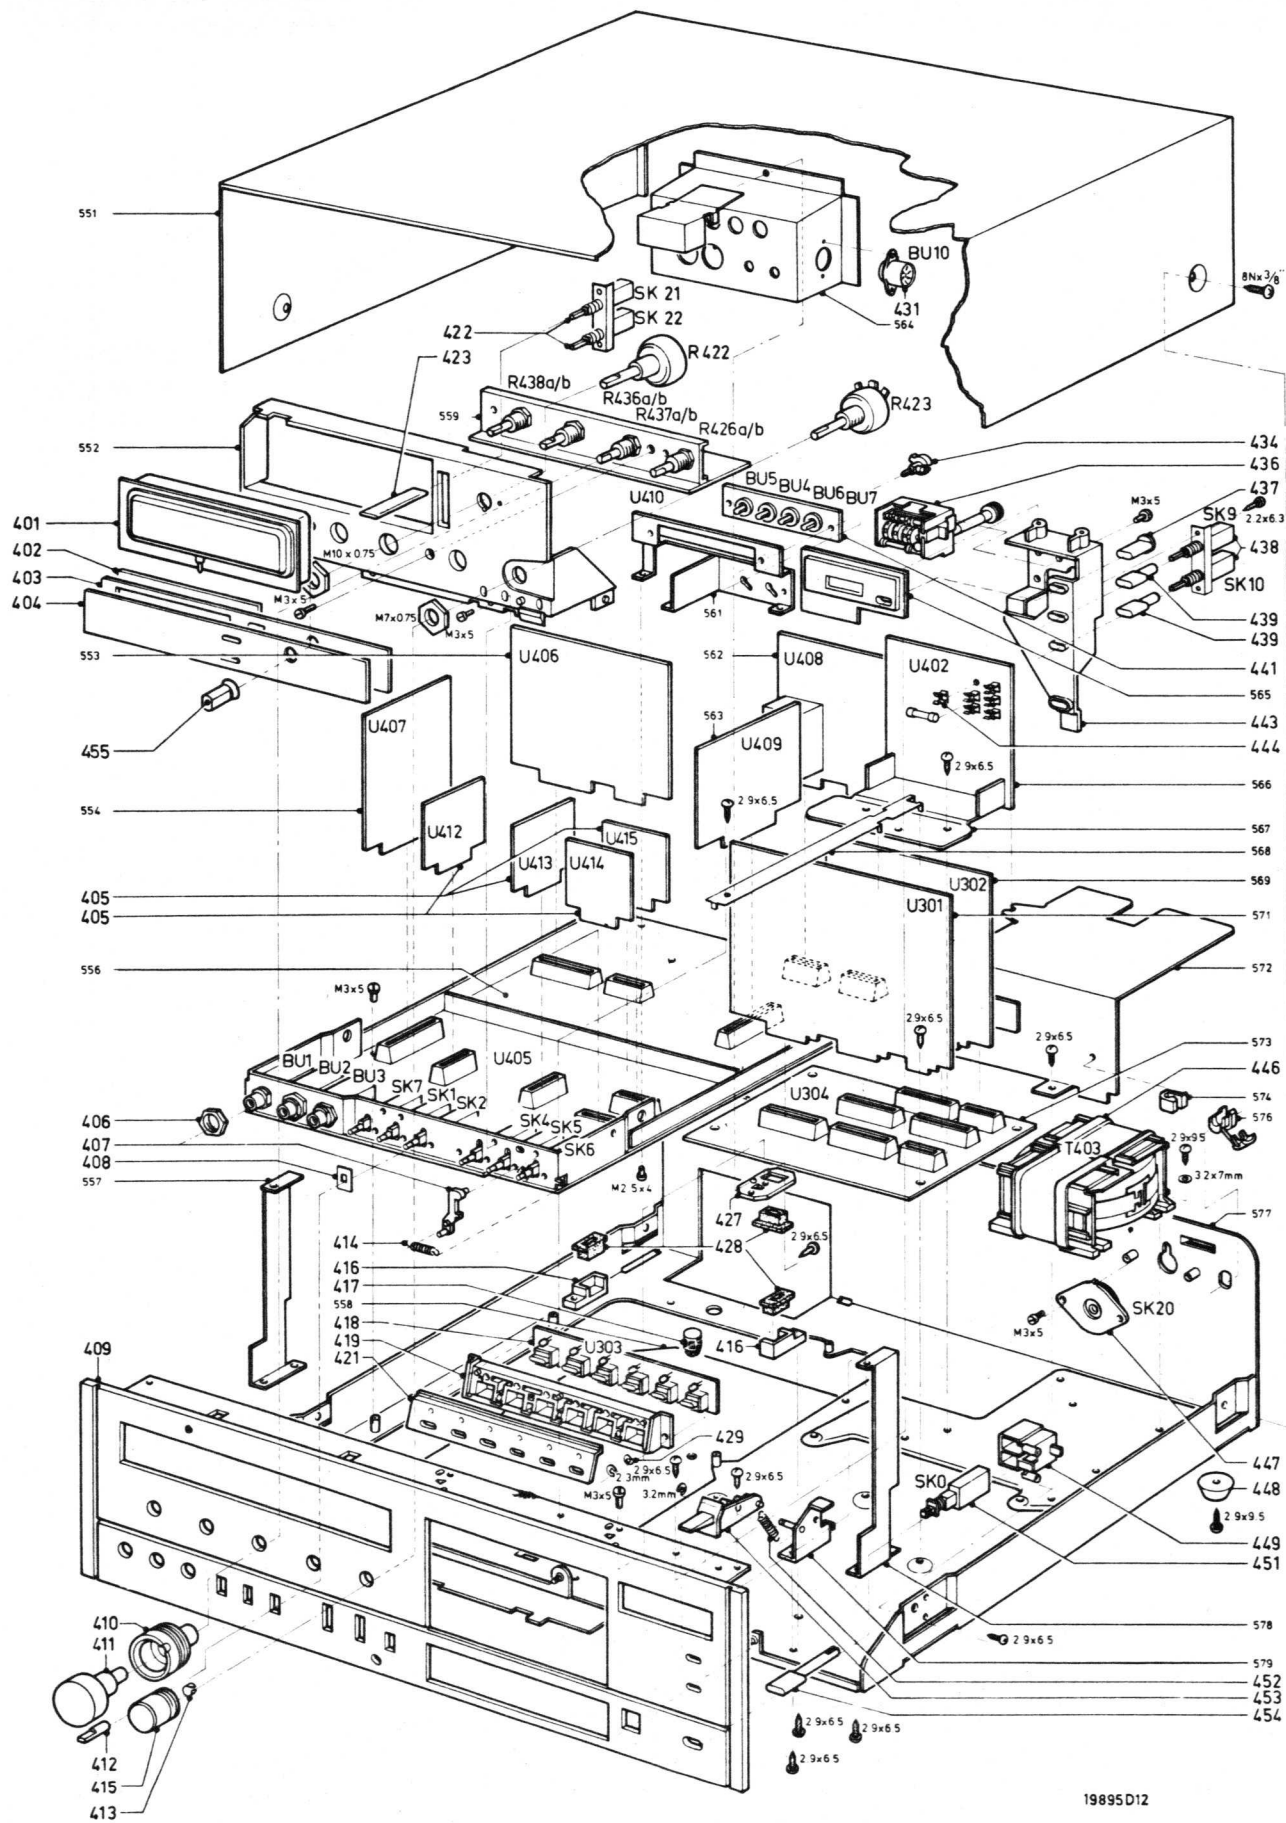

Fig. 3
2. Tape deck (Fig. 3 and 13)
3. Front panel 408 (Fig. 3)
- Press the two tabs at the top of item 552 downwards and pull the front panel forwards. The front panel is now detached from the cabinet.